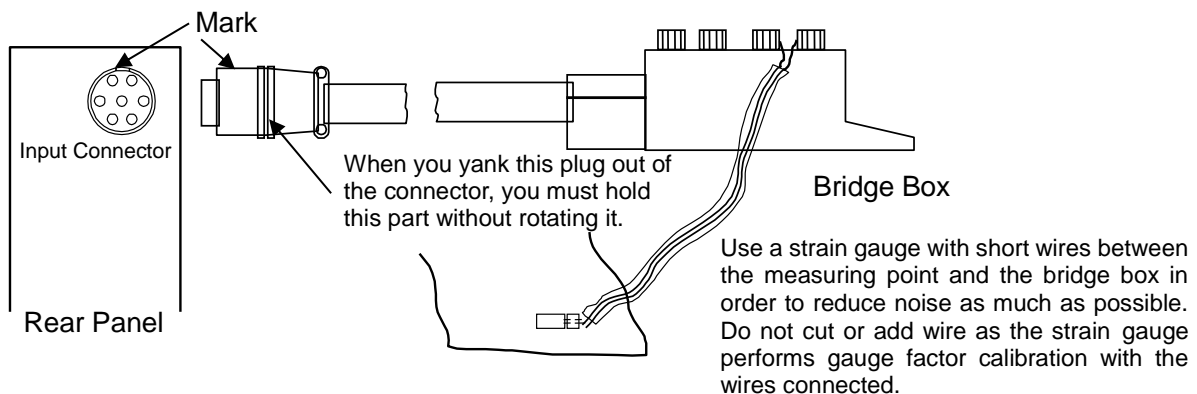

Fig. 3-1 Connection with bridge box and so on
3.1.1 Input Cable Connections (See Fig. 3-1.)